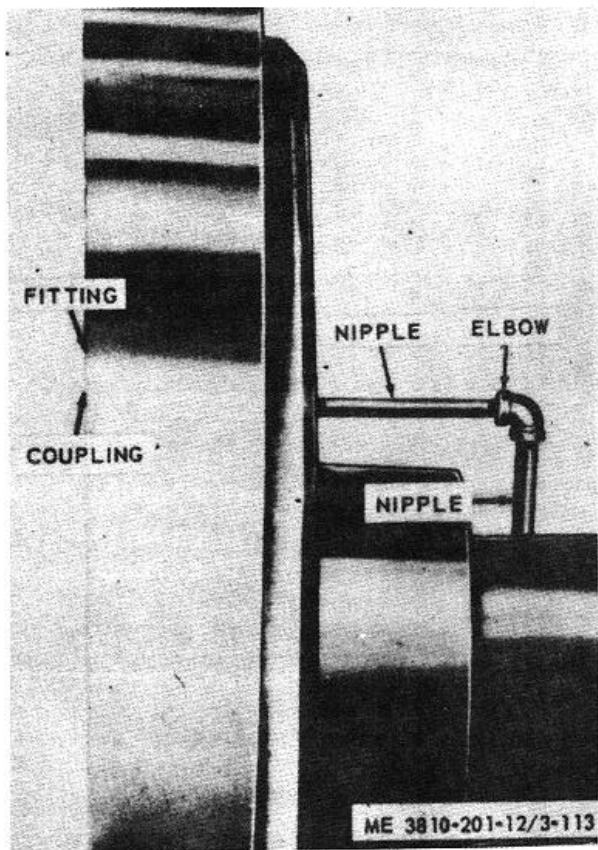
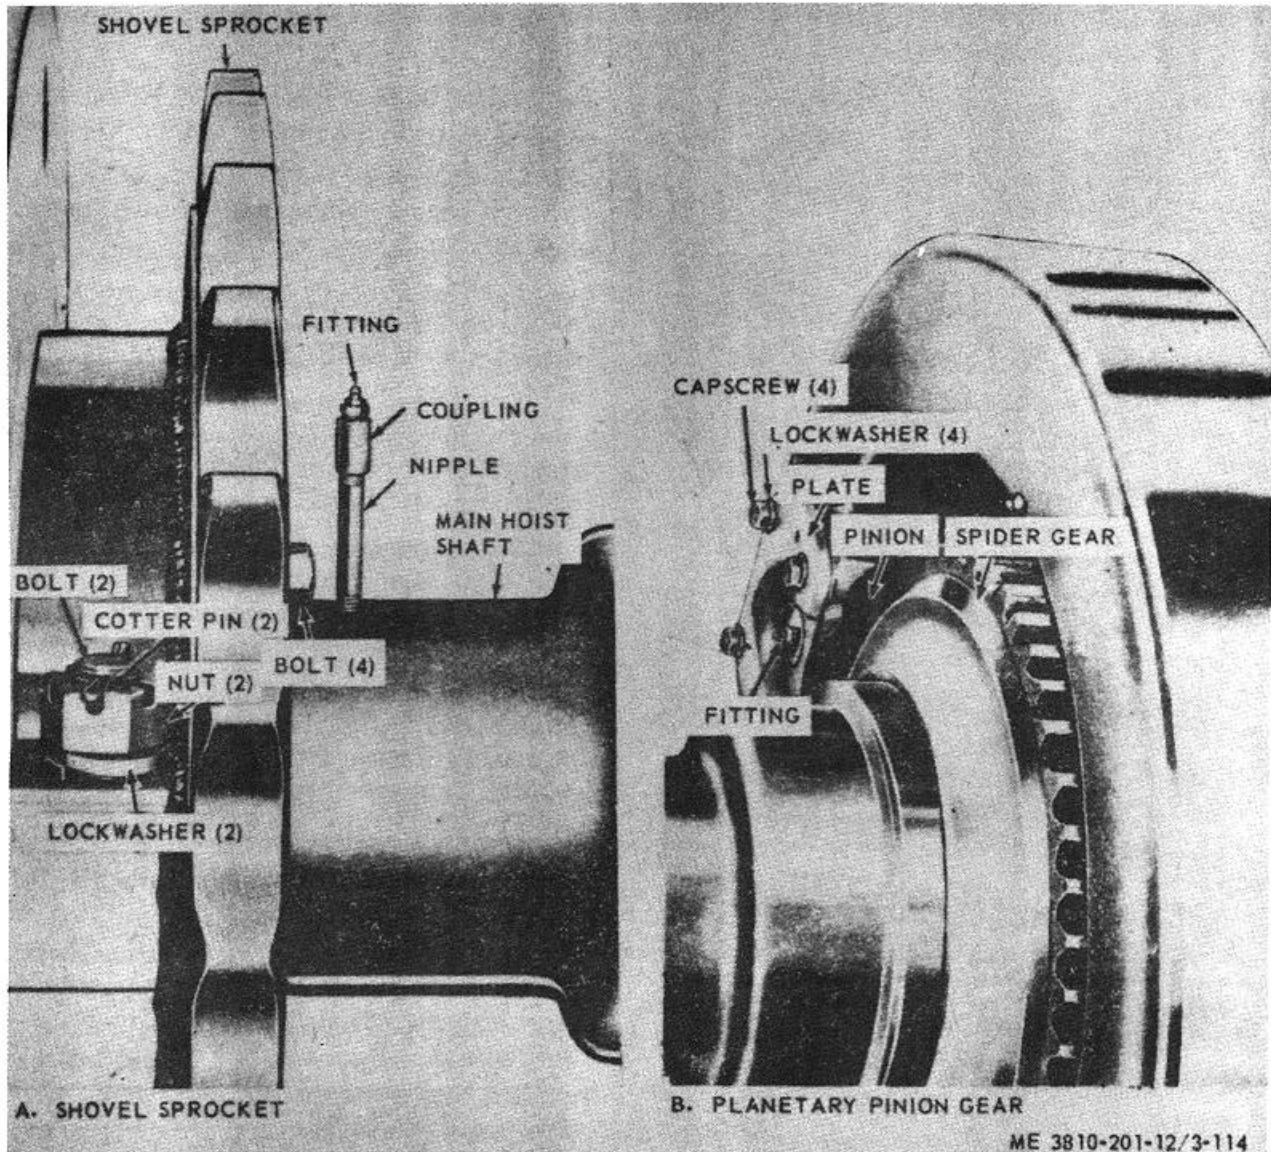

Figure 3-100. Lubricating fitting arrangement for lagging.
Figure 3-101. Shovel sprocket and planetary pinion gear, removal and installation.
c. Lubrication. Refer to figure 3-100, lubrication fitting arrangement.
(1) Remove revolving frame crowd and retract chain (para 4-3).
(2) Refer to view A of figure 3-101 and remove shovel sprocket.
(3) Refer to view B of figure 3-101 and remove planetary pinion gear.
Note. Lubrication arrangement (view A, fig. 3-101) for sprocket installation must be modified to that shown in figure 3-100 when other front end attachments are installed.